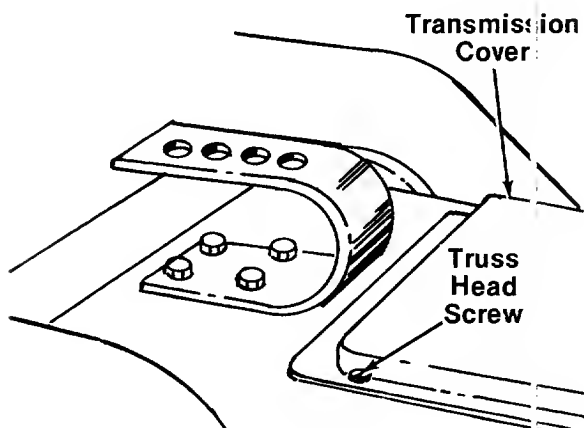

FIGURE 5.
2. Remove the two truss head screws which secure the transmission cover. See figure 5.